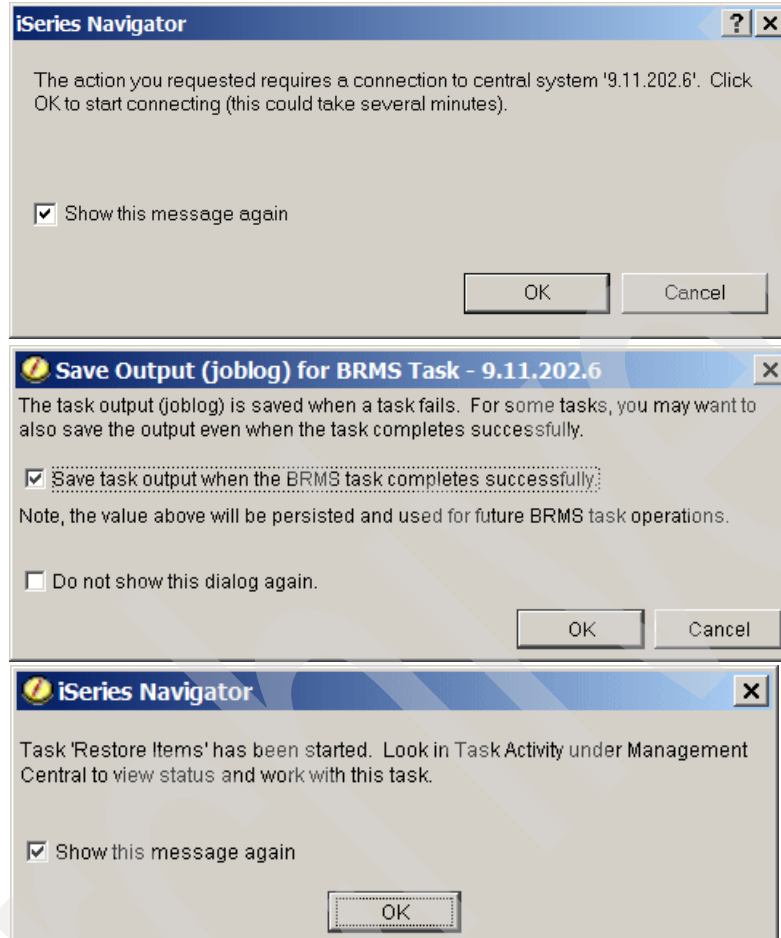

Figure 6-43 Restore wizard - 3
- Next, similar windows as with save (run backup policy) are shown, informing you about the connection to iSeries Management Central, asking you for a selection to save BRMS task output, and informing you about the possibility to look at status panel while the restore task is executed. These windows are shown in Figure 6-43. On each window, click **OK** after making your selections.